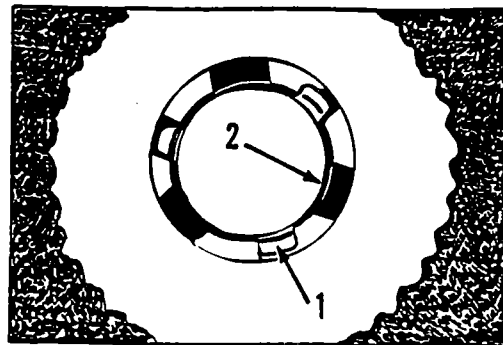

Figure 2
5. Align the lugs (1) on the locking plate into the pad driver adapter openings (2). See figure 2.